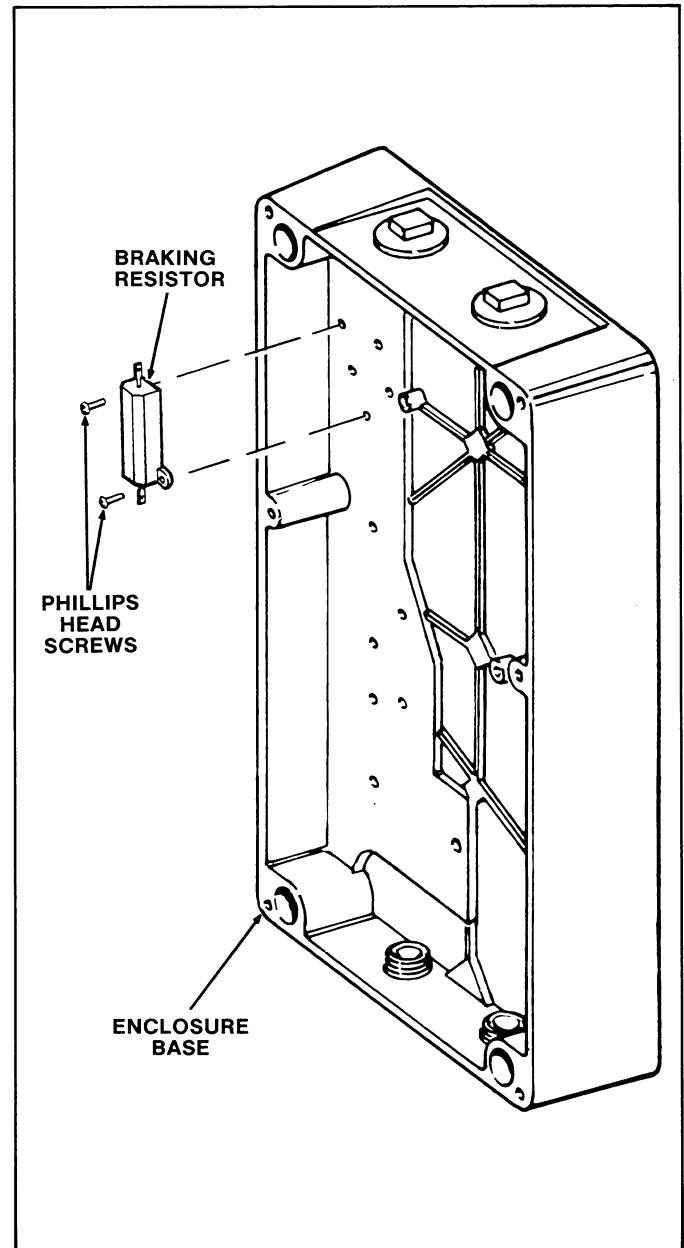

Figure 1— Dynamic Braking Resistor Mounting
8. Position Resistor over mounting holes in enclosure base and secure with two Phillips head screws to a torque of approximately 20 inch-pounds (see Figure 1).